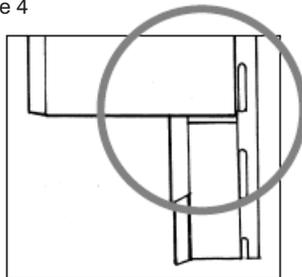

Figure 6
- 3) Cut and remove this area. Continue the crosscut to the edge of the lineal. widen this cut to make a slit about $\frac{1}{16}$ " wide. (Figure 6)